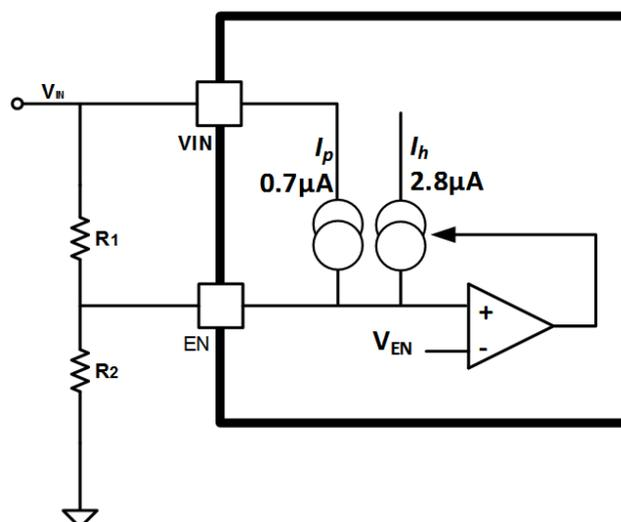

Fig. 28 Input Under-Voltage Lockout Setup
Under-voltage lockout can be used to prevent the output from starting until the input voltage is within its normal range. For input under voltage lockout (UVLO) adjustment, use the EN pin as shown in Fig. 28 to set the UVLO level by using two external resistors. Once the EN pin voltage exceeds 1.3V, an additional 2.8 $\mu$ A of current is added to provide input voltage hysteresis. Resistor  $R_{EN1}$  and  $R_{EN2}$  can be calculated using Equations (4) and (5) based on the required startup voltage and shutdown voltage.